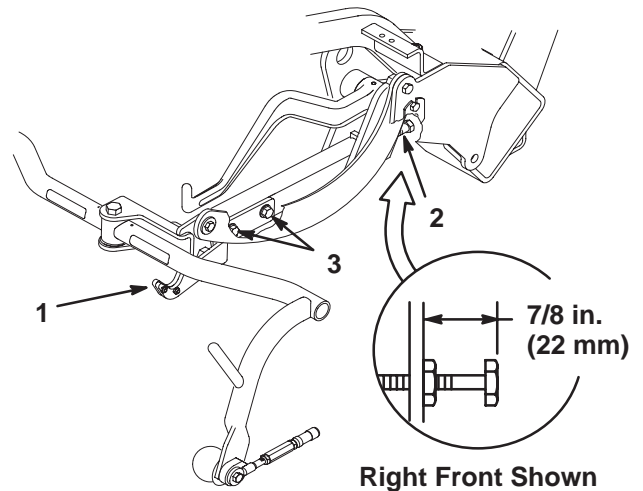

Figure 21
Check the transport height (Fig. 21) and adjust, if required, as follows:
2. Verify that the distance from the top of the carrier frame adjusting screw (Fig. 21) and the back of the carrier frame is 7/8 in. (22 mm).
3. Loosen the transport plate mounting screws (Fig. 21).
6. If the carrier frames are not at the same height, loosen the jam nut on the carrier frame adjusting screw (Fig. 21). Rotate the screw outward to raise and inward to lower. Tighten the jam nut after the proper height is obtained.